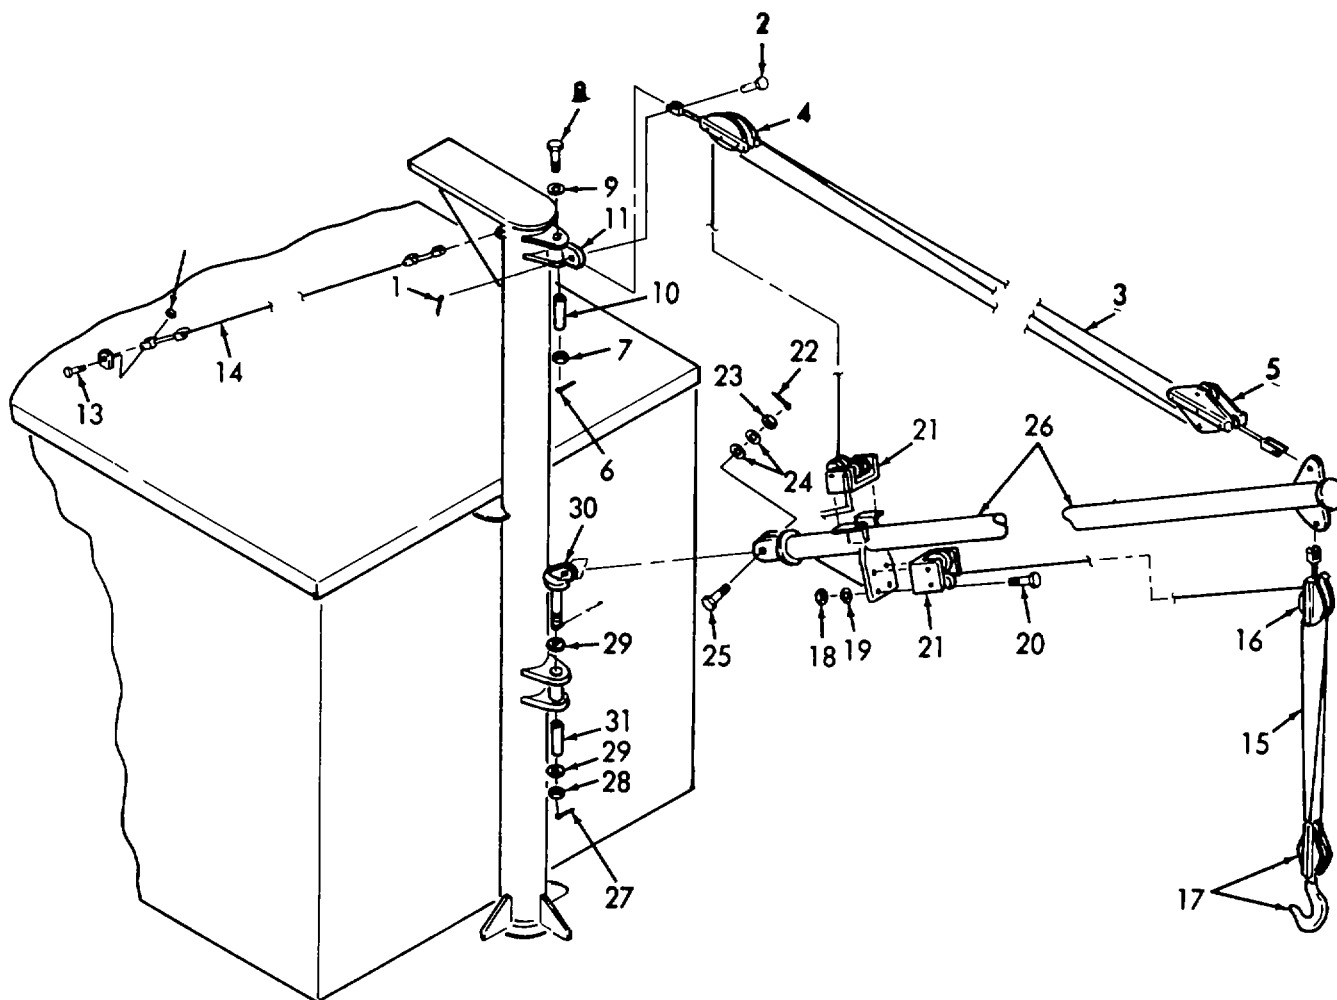

Figure 3-6. Cargo Boom, Removal/Installation.
a. Removal. (Refer to figure 3-6).
- (1) Remove three cotter pins (1) and three pins (2).
- (2) Remove cable swedge and remove cable (3) from sheave blocks (4 and 5). Remove sheave blocks (4 and 5).
- (3) Remove pin (6), nut (7), bolt (8), washer (9), bushing (10), and swivel (11).
- (4) Remove four nuts (12), four bolts (13), and two cable assemblies (14).
- (5) Remove cable swedge and remove cable (15) from sheave blocks (16 and 17). Remove sheave blocks (16 and 17).
- (6) Loosen nut on two hand winches (21) and remove cables (3 and 15).
- (7) Remove eight nuts (18), eight lockwashers (19), eight bolts (20), and two winches (21).
- (8) Remove cotter pin (22), nut (23), two washers (24), and bolt (25). Remove boom assembly (26).
- (9) Remove cotter pin (27), nut (28), two washers (29), pivot (30), and bushing (31).